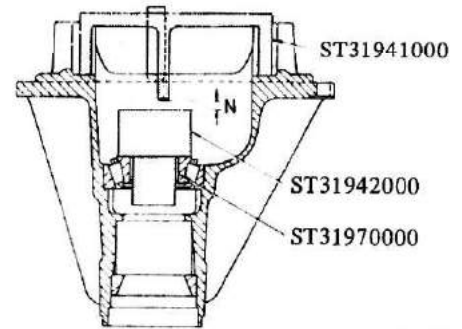

Fig. PD-16 Adjusting pinion height
2. Fit rear bearing on carrier and install Dummy Shaft ST31942000 and Collar ST31970000 on rear bearing, and place Height Gauge ST31941000 on carrier. See Figure PD-16.